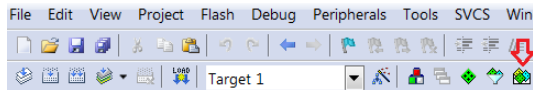

Figure 16. Pack Installer Icon
1. Open the Keil μ Vision IDE and navigate to **Project > Manage > Pack** installer or click on the icon shown in Figure 16.